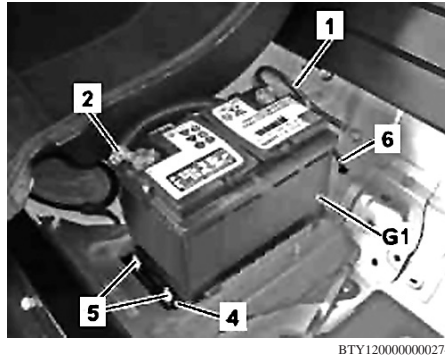

Fig. 2 Battery removal. P98 Black Series
4. Detach ground cable (1) from battery, Fig. 2.
5. Detach positive cable (2) from battery, Fig. 2.
6. Detach vent hose (6) from battery, Fig. 2.
7. Remove battery mounting nuts (5), Fig. 2.
8. Remove battery mounting bracket (5), Fig. 2.
2. Install battery mounting bracket (5), Fig. 2.
3. Install battery mounting nuts (5), Fig. 2.
4. Attach positive cable (2) to battery, Fig. 2.
5. Attach ground cable (1) to battery, Fig. 2.
6. Attach vent hose (6) from battery, Fig. 2.